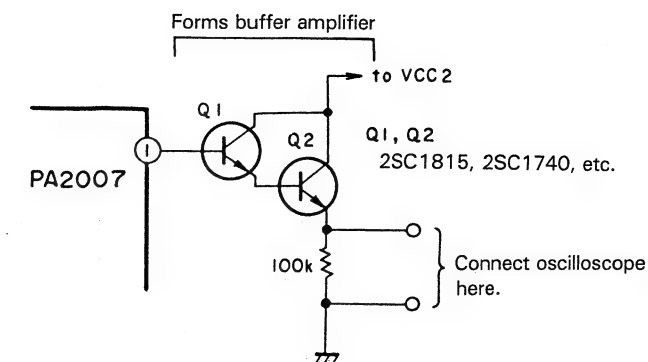

Fig. 9-1 Buffer Amplifier
1. Connect a buffer amplifier to pin ① of the circuit board unit PA2007 (Fig. 9-1) and connect the output to an oscilloscope.